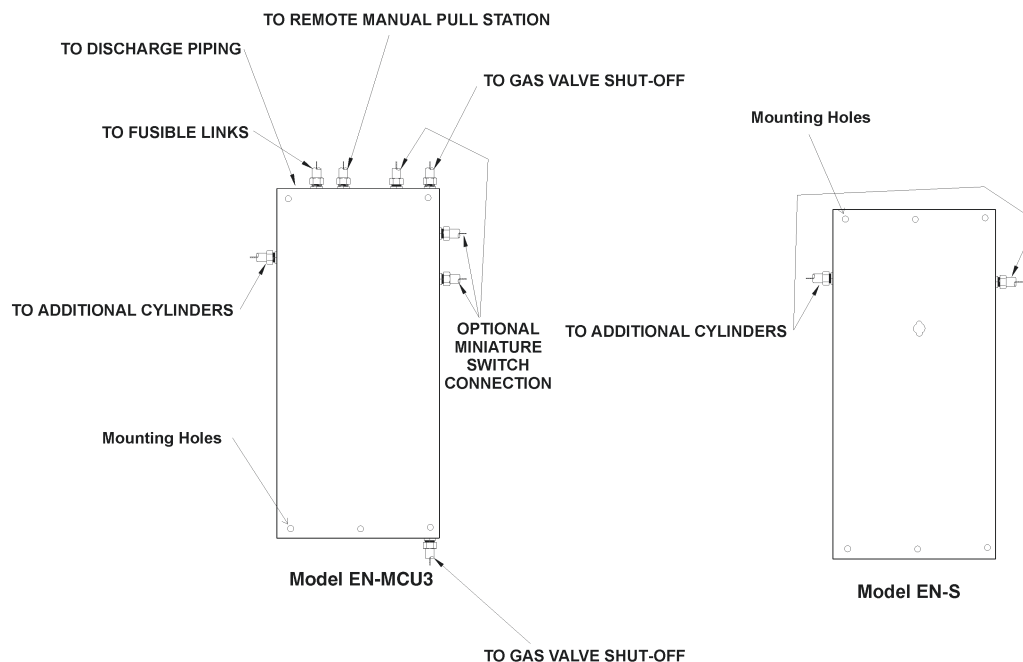

Figure 4-24. Models EN-MCU3 and EN-S Enclosures.
Three (3) center mounting holes allow either enclosure to be mounted on a single stud. Four (4) corner mounting holes are also available. See **Figure 4-24**.
After the valve is installed in the gas line, 1/2" conduit must be run from the top center knockout of the gas valve box to the top or bottom knockout in the enclosure. See **Figure 4-24**. A Pyro-Chem Kitchen Knight II corner pulley is used wherever a change in conduit direction is required.
Three (3) knockouts are provided for Miniature Switch wiring. The upper right-side knockout must be used when the gas valve line exits the bottom of the enclosure (see **Figure 4-26**). The lower right-side knockout must be used when the gas valve line exits the top of the enclosure (see **Figure 4-27**). An additional knockout located on the top of the enclosure is also provided (see **Figure 4-24**) and may be used in either situation.